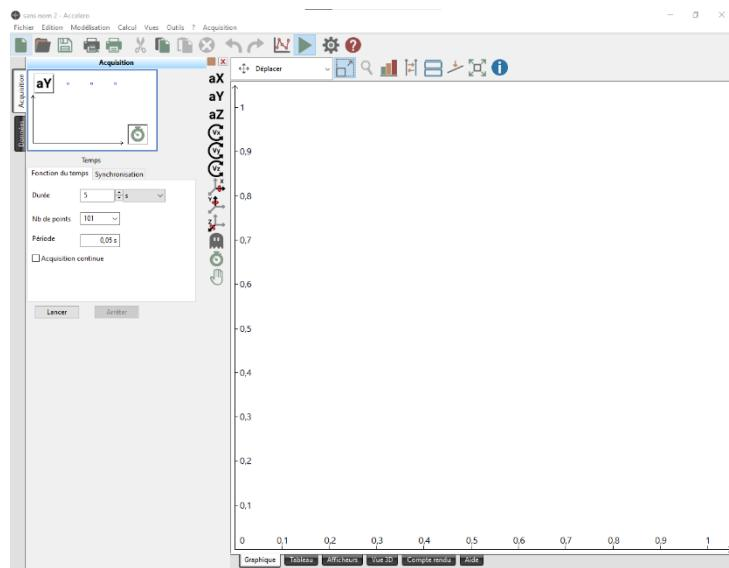

Figure 8 : Software interface
- Drag and drop Y-acceleration  on ordinate axis, and time  on abscissa axis. Here, the horizontal acceleration is oriented along the Y-axis (figure 8).